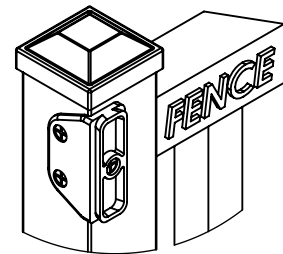

FIG. 2
STEP 2: Install the UPPER BRACKET as near to the top of the Fence Post as possible using (3) FlatHead Screws. (Fig. 2)